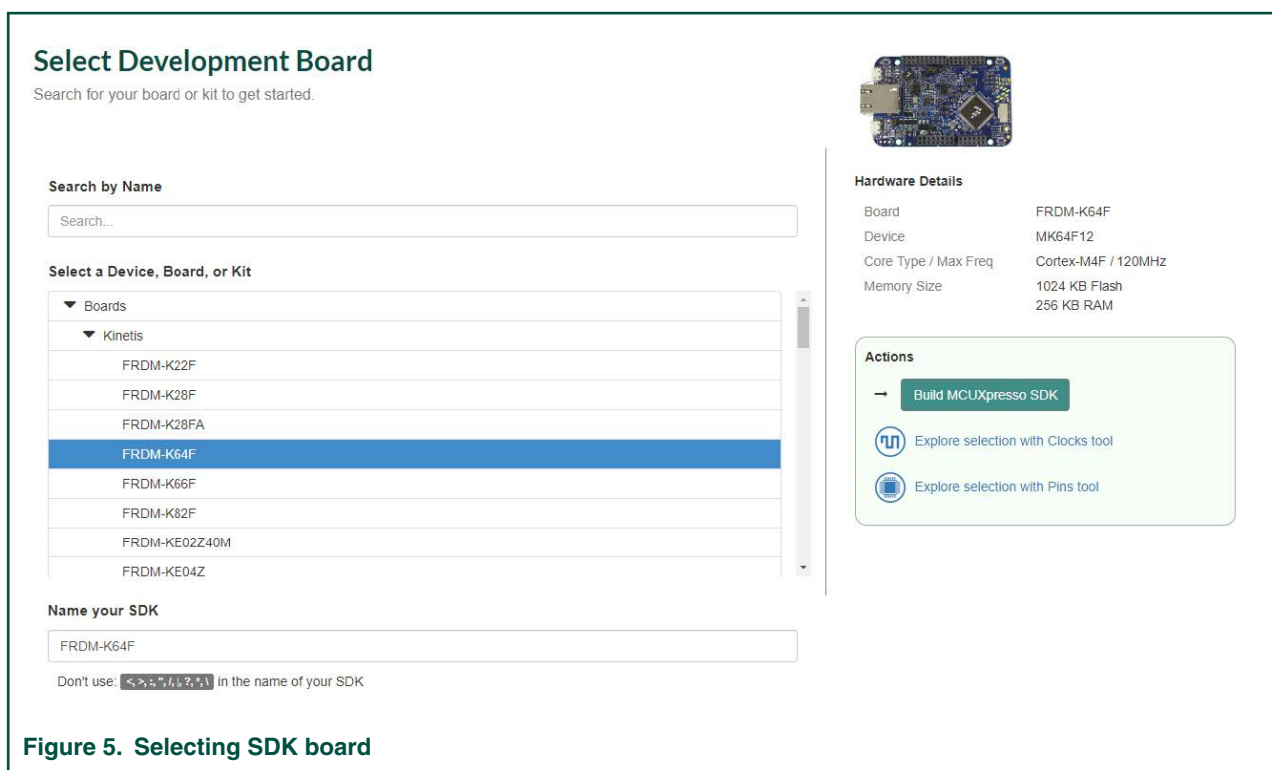

Figure 5. Selecting SDK board
2. Select your board from the drop-down list, as shown in Figure 5.